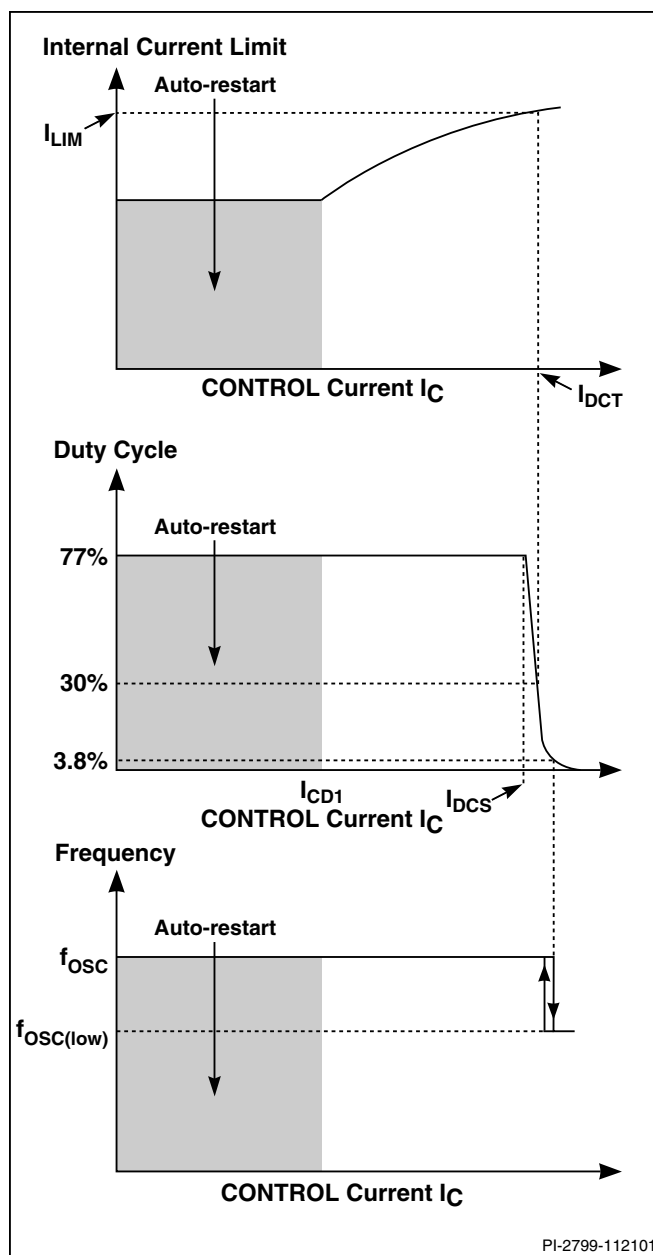
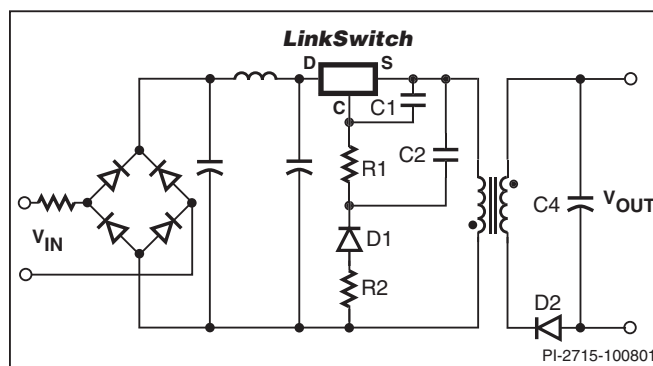
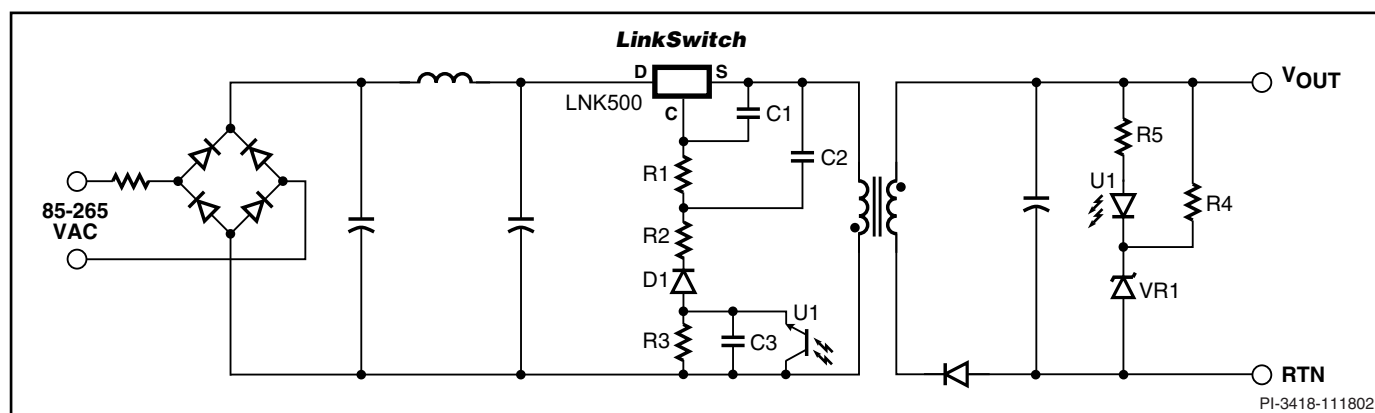

Figure 4. CONTROL Characteristics.
Figure 5. Power Supply Outline Schematic.
Figure 6. Power Supply Outline Schematic with Optocoupler Feedback.
The duty cycle, current limit and operating frequency relationships with CONTROL pin current are shown in Figure 4. Figure 5 shows a typical power supply outline schematic which is used below to describe the LinkSwitch operation.
During power up, as V_{IN} is first applied (Figure 5), the CONTROL pin capacitor C1 is charged through a switched high voltage current source connected internally between the DRAIN and CONTROL pins (see Figure 2). When the CONTROL pin voltage reaches approximately 5.6 V relative to the SOURCE pin, the high voltage current source is turned off, the internal control circuitry is activated and the high voltage internal MOSFET starts to switch. At this point, the charge stored on C1 is used to supply the internal consumption of the chip.
As the output voltage, and therefore the reflected voltage across the primary transformer winding ramp up, the feedback CONTROL current I_C increases. As shown in Figure 4, the internal current limit increases with I_C and reaches I_{LIM} when I_C is equal to I_{DCT} . The internal current limit vs. I_C characteristic is designed to provide an approximately constant power supply output current as the power supply output voltage rises.
When I_C exceeds I_{DCS} , typically 2 mA (Figure 4), the maximum duty cycle is reduced. At a value of I_C that depends on power supply input voltage, the duty cycle control limits LinkSwitch peak current below the internal current limit value. At this point the power supply transitions from CC to CV operation. With minimum input voltage in a typical universal input design, this transition occurs at approximately 30% duty cycle. Resistor R1 (Figure 5) is therefore initially selected to conduct a value of I_C approximately equal to I_{DCT} when V_{OUT} is at the desired value at the minimum power supply input voltage. The final choice of R1 is made when the rest of the circuit design is complete. When the duty cycle drops below approximately 4%, the frequency is reduced, which reduces energy consumption under light load conditions.
Figure 6 shows a typical power supply outline schematic using LinkSwitch with optocoupler feedback to improve output voltage regulation. On the primary side, the schematic differs from Figure 5 by the addition of R3, C3 and optocoupler U1.
The feedback configuration in Figure 6 is simply a resistive divider made up of R1 and R3 with D1, R2, C1 and C2 rectifying, filtering and smoothing the primary winding voltage signal. The optocoupler therefore effectively adjusts the resistor divider ratio to control the DC voltage across R1 and therefore, the feedback current received by the LinkSwitch CONTROL pin.
When the power supply operates in the constant current (CC) region, for example when charging a battery, the output voltage is below the voltage feedback threshold defined by U1 and VR1 and the optocoupler is fully off. In this region, the circuit behaves exactly as previously described with reference to Figure 5 where the reflected voltage increases with increasing output voltage and the LinkSwitch internal current limit is adjusted to provide an approximate CC output characteristic. Note that for similar output characteristics in the CC region, the value of R1 in Figure 5 will be equal to the value of R1 + R3 in Figure 6.
When the output reaches the voltage feedback threshold set by U1 and VR1, the optocoupler turns on. Any further increase in the power supply output voltage results in the U1 transistor current increasing, which increases the percentage of the reflected voltage appearing across R1. The resulting increase in the LinkSwitch CONTROL current reduces the duty cycle according to Figure 4 and therefore, maintains the output voltage regulation.
transistor voltage and dissipation ratings and should be fully tested before finalizing a design. The values of C2 and C3 are less important other than to make sure they are large enough to have very little influence on the impedance of the voltage division circuit set up by R1, R3 and U1 at the switching frequency. Normally, the values of C2 and C3 in Figure 6 are chosen equal to the value of C2 in Figure 5, though the voltage rating may be reduced depending on the relative values of R1 and R2 discussed above. See Applications section for typical values of components.
The output voltage load variation can be improved across the whole load range by adding an optocoupler and secondary reference (Figure 6). The secondary reference is designed to only provide feedback above the normal peak power point voltage to maintain the correct constant current characteristic.
The schematic shown in Figure 5 outlines the key components needed for a LinkSwitch supply.
Since the SOURCE pins in a LinkSwitch supply are switching nodes, the copper area connected to SOURCE together with C1, C2 and R1 (Figure 5) should be minimized, within the thermal constraints of the design, to reduce EMI coupling.